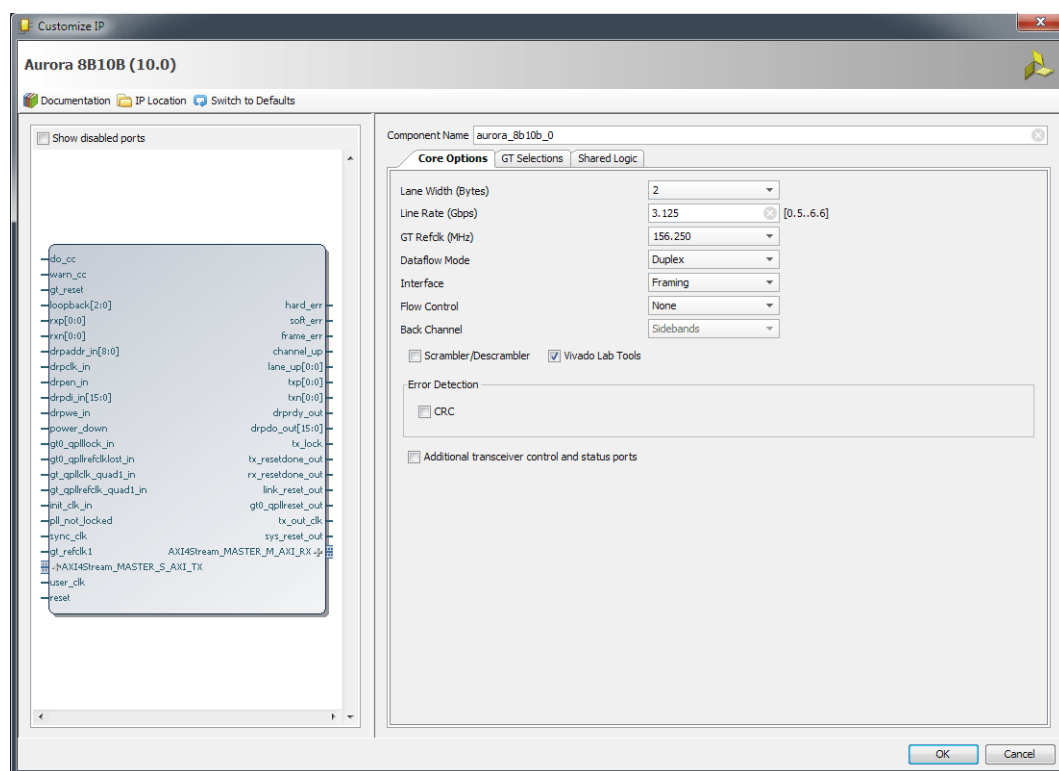

Figure 10: Aurora 8B10B Four Lane Core Options Settings
10. Set the configuration options shown in Figure 10.